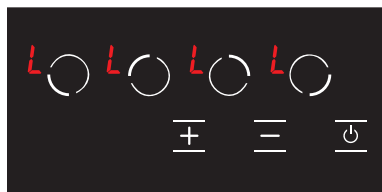

Figure 16
3. The child lock is activated at this time and the **L** icon is displayed on all hobs to indicate this condition. (see Fig. 16) The **L** and **H** icons are displayed alternatively if any hob is hot.